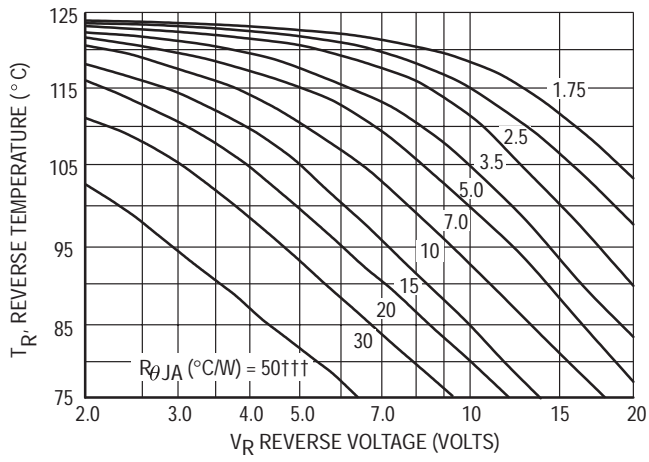

Figure 1. Maximum Reference Temperature – 1N5829
Figures 1, 2, and 3 permit easier use of equation (1) by taking reverse power dissipation and thermal runaway into consideration. The figures solve for a reference temperature as determined by equation (2):
Inspection of equations (2) and (3) reveals that T_R is the ambient temperature at which thermal runaway occurs or where T_J = 125°C, when forward power is zero. The transition from one boundary condition to the other is evident on the curves of Figures 1, 2, and 3 as a
difference in the rate of change of the slope in the vicinity of 115°C. The data of Figures 1, 2, and 3 is based upon dc conditions. For use in common rectifier circuits, Table 1 indicates suggested factors for an equivalent dc voltage to use for conservative design, i.e.: